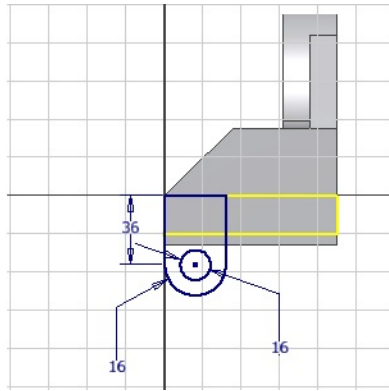

Figure 6-126 *Sketch of the join feature*
2. Draw the sketch of the join feature. Draw a circle inside the sketch such that when extruded, a hole is created automatically. Add the required constraints and dimensions to it, as shown in Figure 6-126, and then exit the Sketching environment.